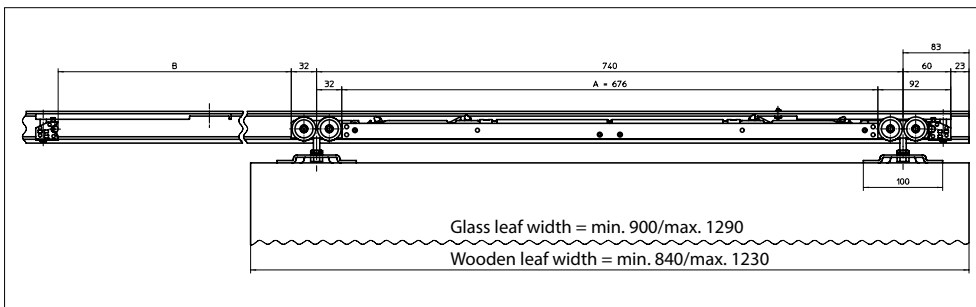

Fig. 41-2
e.g. with wooden leaf, medium-sized design (2-sides), damping in both directions, see Fig. 41-2